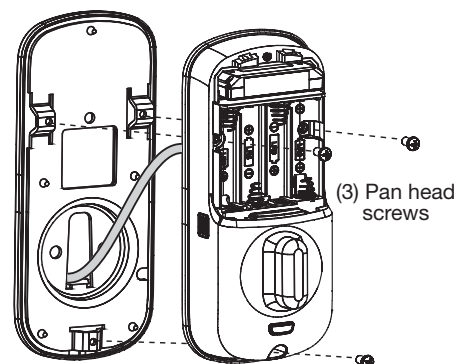

Figure 8
8. Install and secure using (3) M4 x 8mm [8-32 x 5/16"] pan head screws through the inside escutcheon into the mounting plate (Fig. 8).